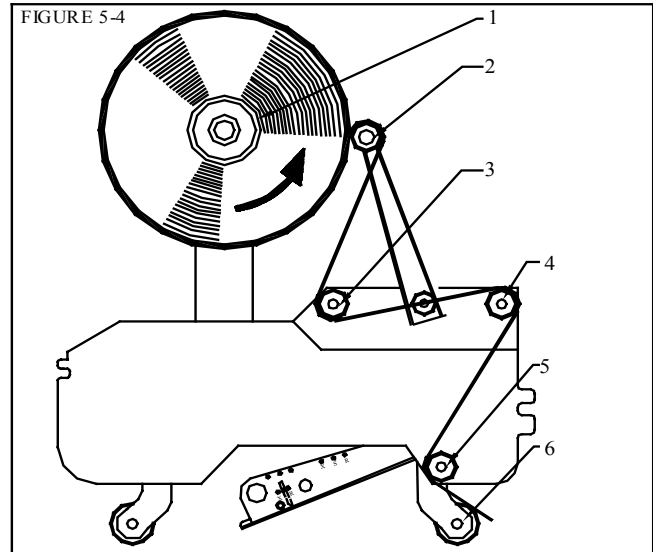

FIGURE 5-4
4. If the problem still persists, it will be necessary to check each roller the tape comes in contact with to ensure that they roll freely. [Fig 5-4]
5. If the tape tension is still too tight, check to see if the tape roll is centered properly on the dispenser. To do this, check the tape centering left-to-right on each of the rollers it makes contact with. [Fig 5-4]
Make sure the tape is threaded through the dispenser as shown in the diagram [Fig 5-4]